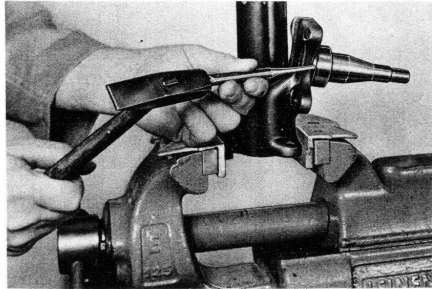

Fig. 14
2. Heat distance ring to approx. 150°C (300°F) and push it into place (see Fig. 14).